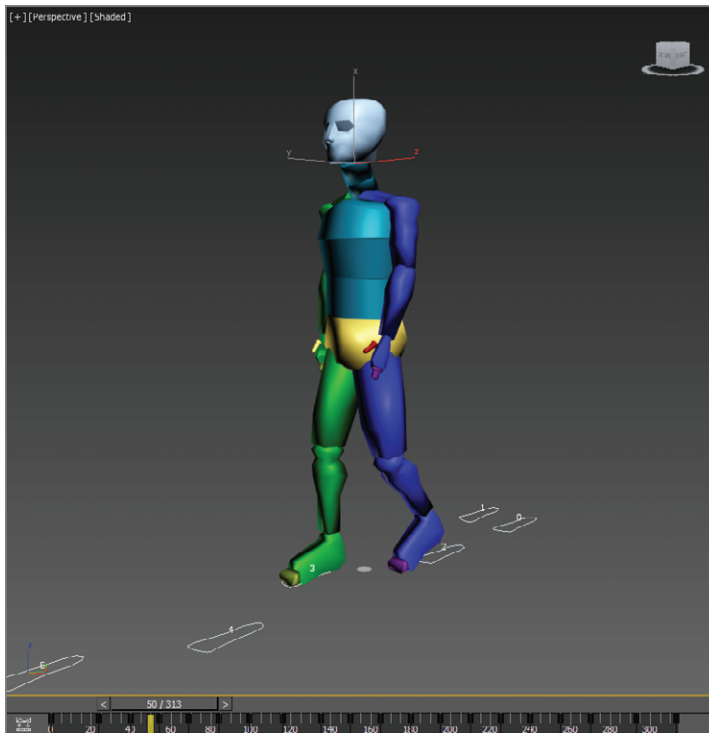

FIGURE 13.2 Selecting the head of the biped reveals all of that object's animation keys in the track bar.
3. Select the biped's head and note the animation keys that appear in the track bar, as shown in Figure 13.2.